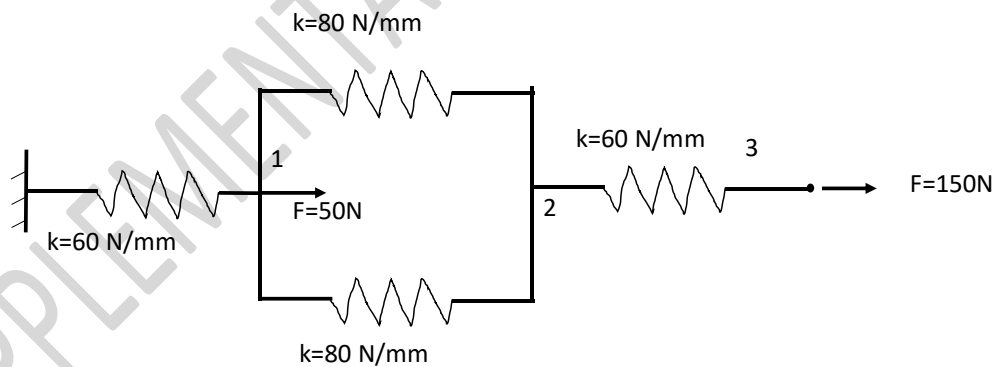

Fig. 1C
- c) For the spring shown in Fig. 1c, determine the nodal displacements at points 1, 2 and 3. 10